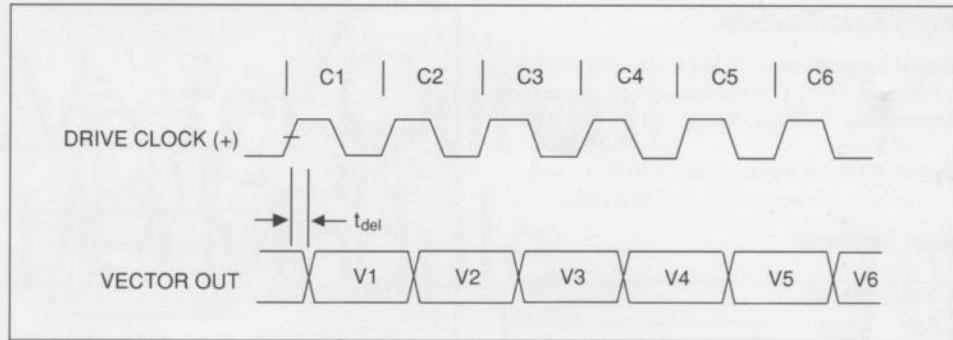

Figure 3. Vector Out Delay from Clock Source
**Vector Out Time Delay From Clock Source.** See Figure 3: Delay ( $t_{del}$ ) from DR CLK to vector out  $50 \pm 8$  ns. Delay ( $t_{del}$ ) from INT CLK to vector out  $37.5 \pm 7.5$  ns.